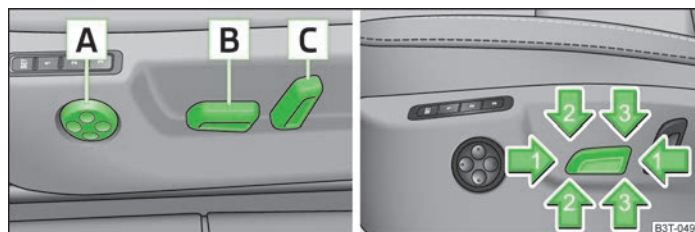

Fig. 54 Controls for the electric seat adjustment
- Press the switch **B** » Fig. 54 forwards or backwards in the direction of arrow 1.
- Press the switch **B** » Fig. 54 upwards or downwards.
- Press the switch **B** » Fig. 54 in the direction of the arrow 2 or 3.
- Press the switch **C** » Fig. 54 in the direction of the desired setting.
- Press the switch **A** » Fig. 54 forwards or backwards.
- Press the switch **A** » Fig. 54 upwards or downwards.